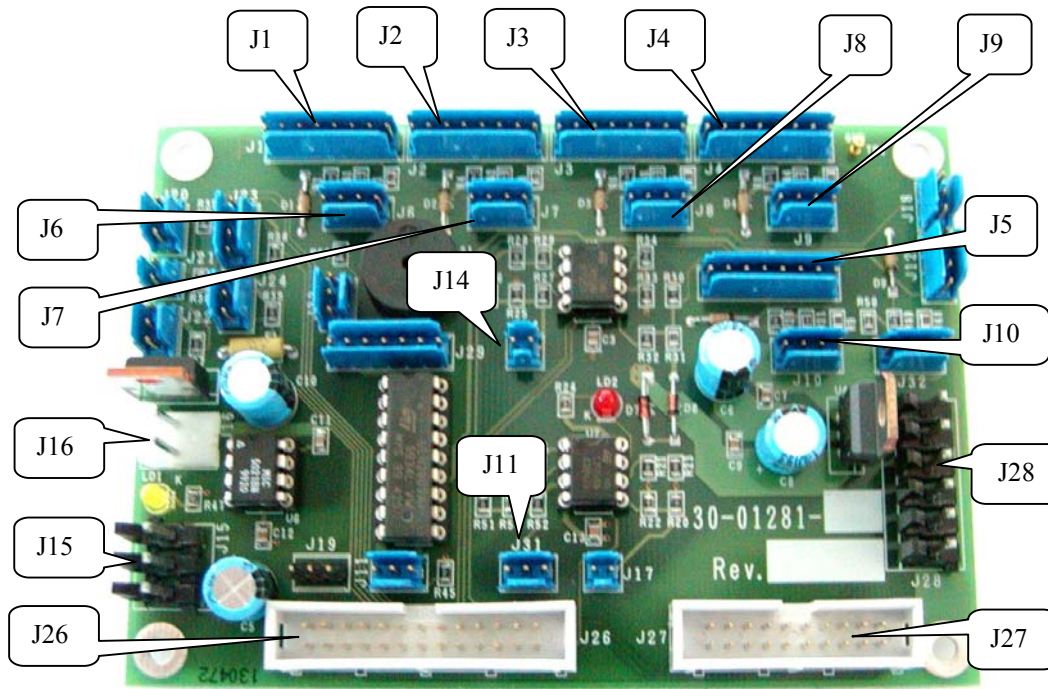

Fig. 94 Plate Interface board
2. Unplug the J1, J2, J3, J4, J5, J6, J7, J8, J9, J10, J11, J14, J15, J16, J26, J27, J28 connectors and the ground wire from the Plate Interface board (Fig. 94).